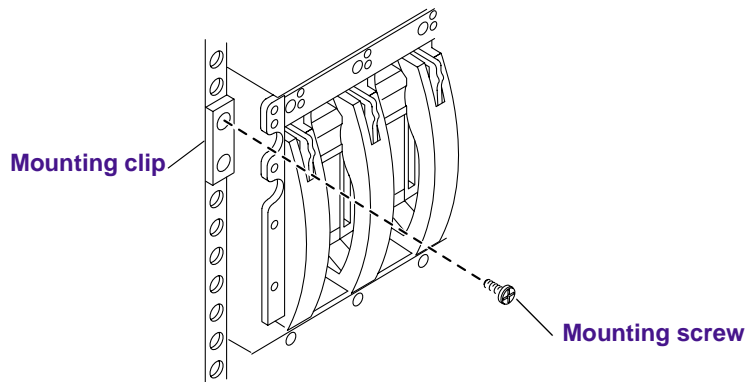

Figure 1-8 Installing the FCDE Mounting Screws
5. Attach the FCDE to the rack front channel, using one mounting screw on each side of the FCDE (see Figure 1-8).